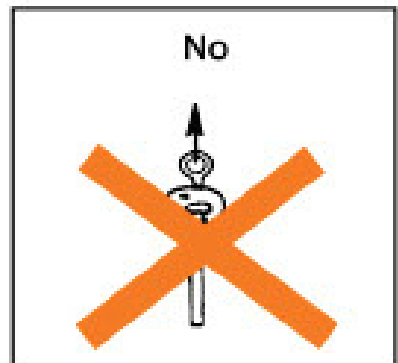

Figure 56
**WARNING!** This clamp is suitable for lifting steel drums only. This tool is not designed for lifting plastic drums or metal plates or sheets. (Fig. 56).